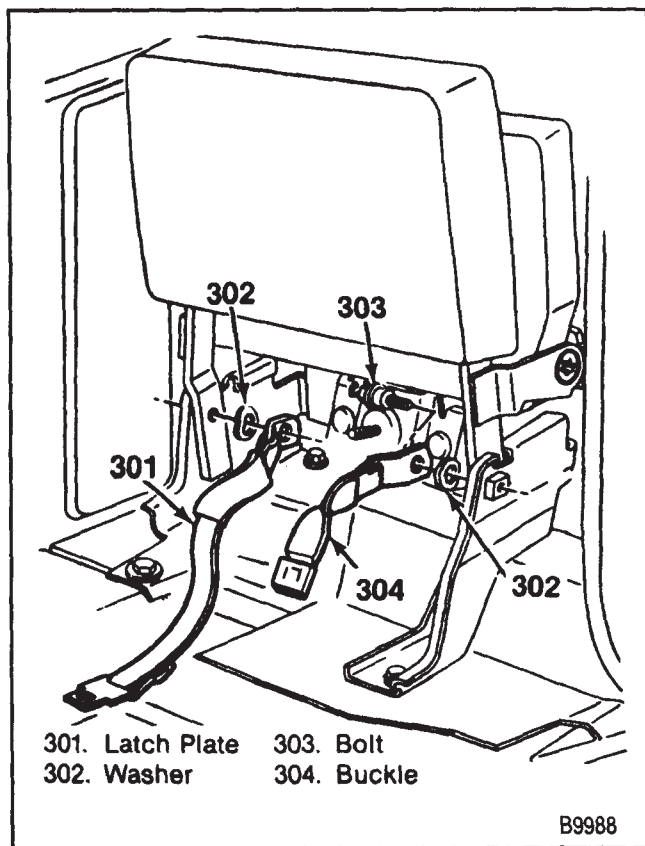

Figure 21—Jump Seat Belts
**Remove or Disconnect (Figure 21)**
**Install or Connect (Figure 21)**